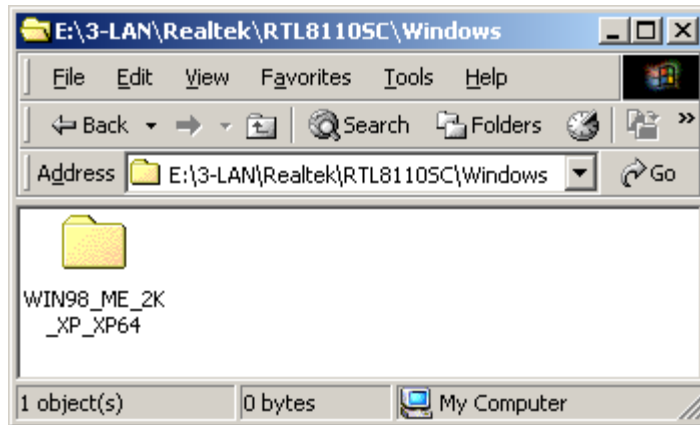

Figure 7-30: Windows Folder
Step 5: Double-click the appropriate OS folder and a new window opens (**Figure 7-30**).